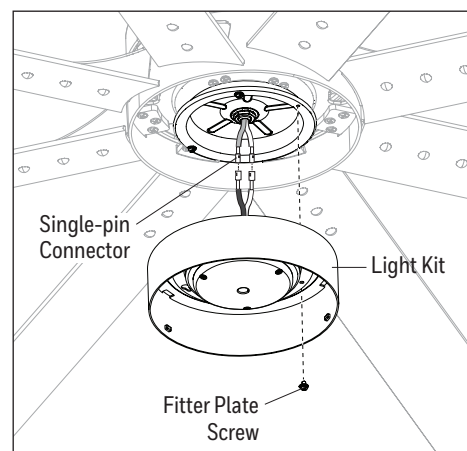

Figure 5.6
6. Remove one of the three fitter plate screws preassembled to the fitter plate and loosen the other two but do not remove. Connect the single-pin connector from the fitter plate to the single-pin connector from the light kit -- Blue to Black and White to White. Align the slotted holes in the light kit with the loosened screws in the fitter plate. Turn light kit clockwise and replace the previously removed fitter plate screw. Tighten all screws (Figure 5.6).